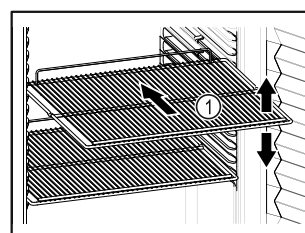

Fig. 54
- ❑ If there are adjustable shelves *Fig. 54 (1)*, position them as required.